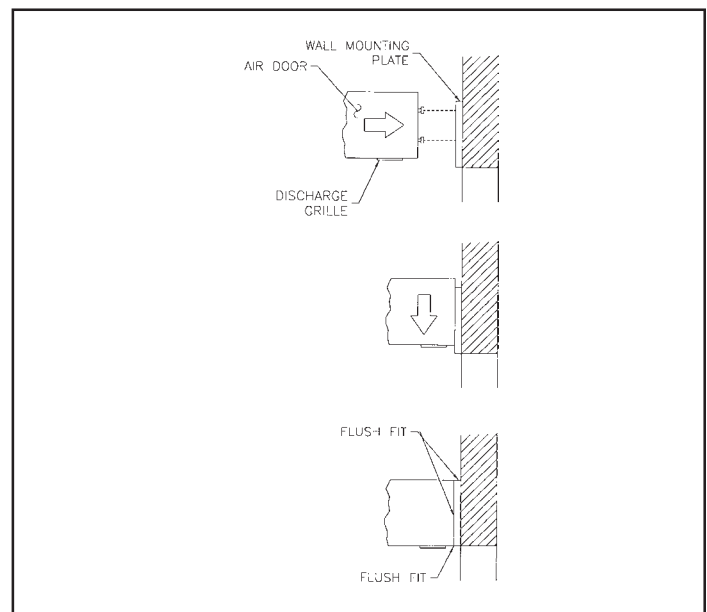

FIGURE 9 - Mounting to Wall Plate
- F. Raise the air door with the discharge opening facing down toward the floor. While holding the unit level, slide the heads of the shoulder bolts into the larger hole of the keyhole slots of the mounting plate. Lower the unit into place, keeping both ends level, allowing it to rest flush with the mounting plate. **See Figure 9.**